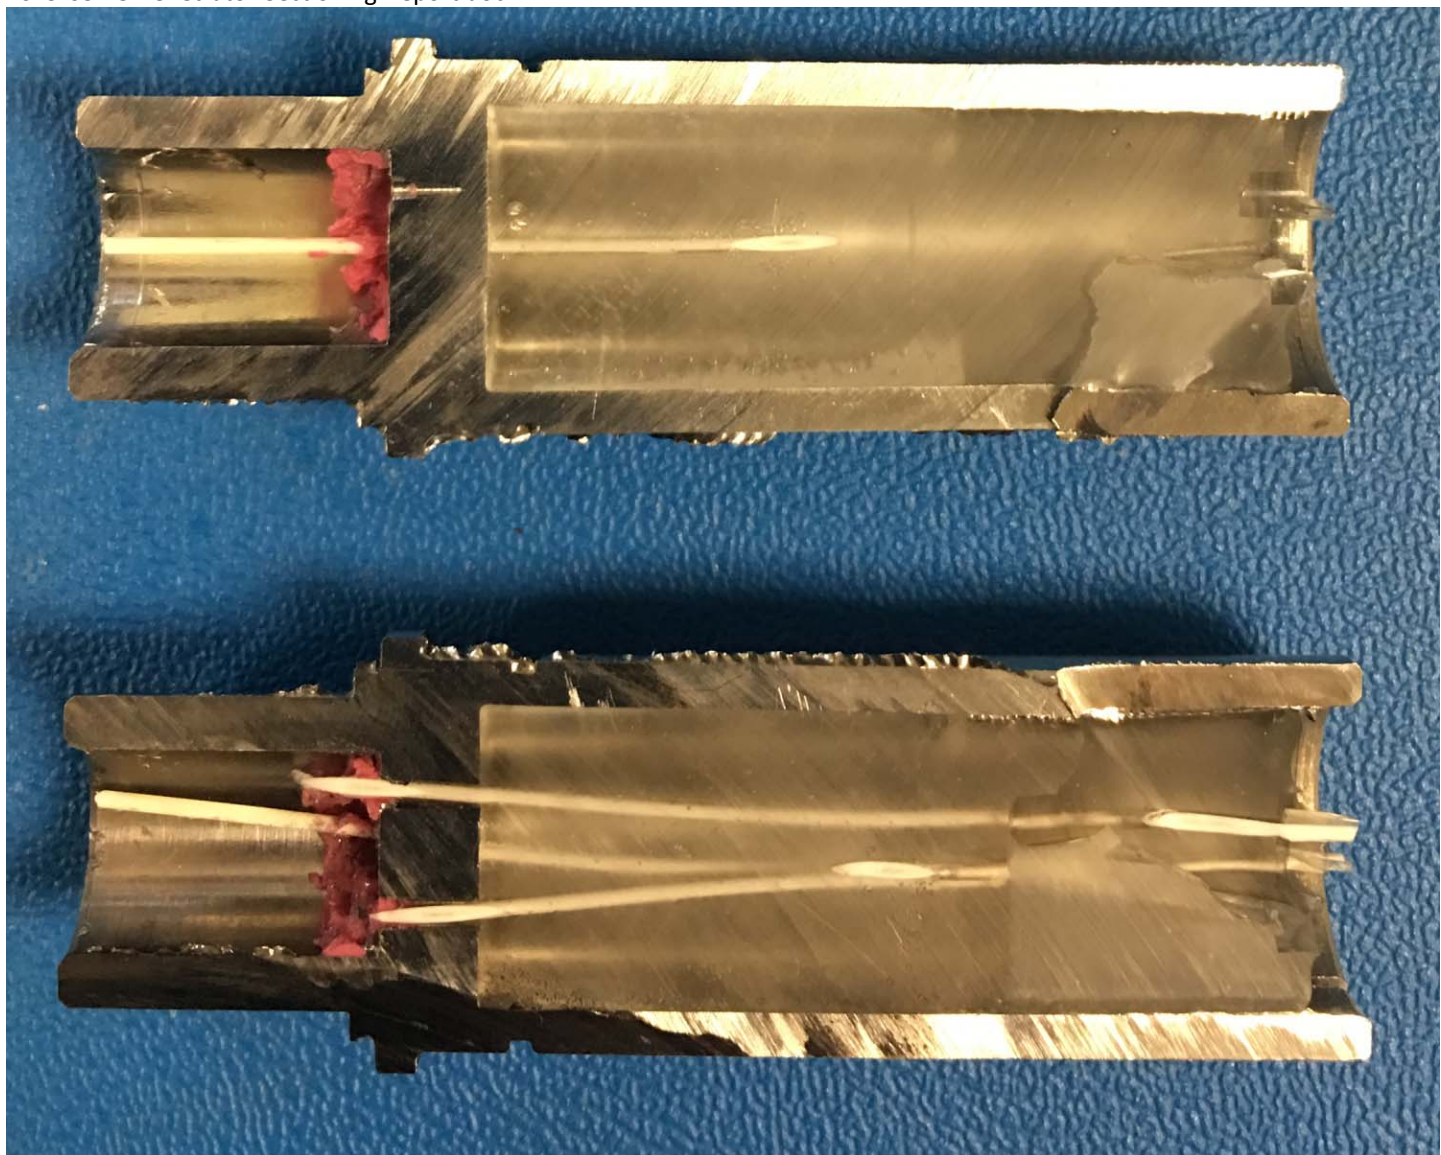

Fig 2. (Sample 2). Developed leak under pressure. #
- Sample 2 (Fig 2.). DID leak during pressure testing. Difference from Sample 1 highlighted in **yellow**